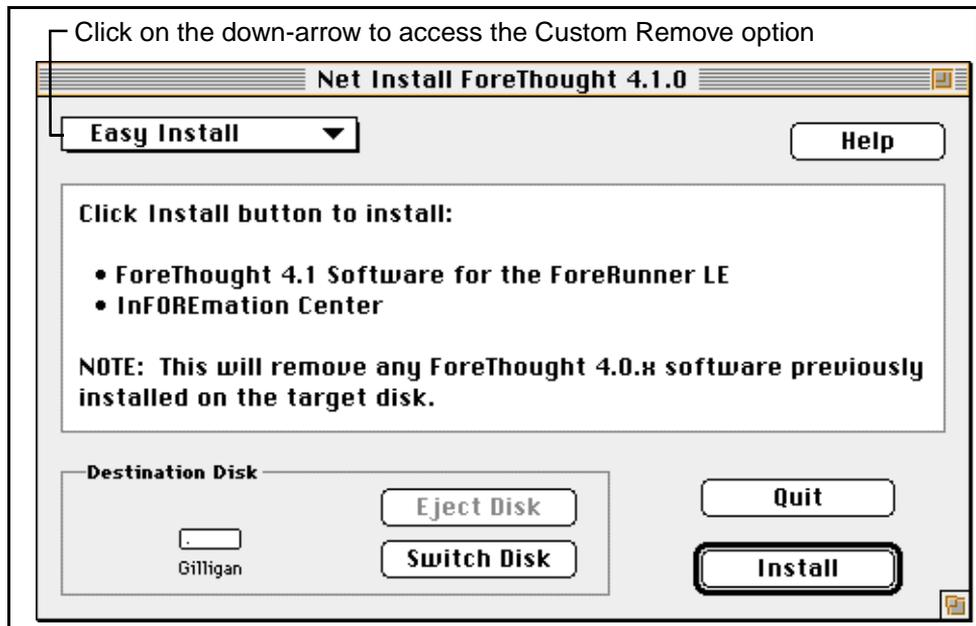

Figure 3.9 - Install FORE Software Window - Easy Install Mode
1. Follow the procedure outlined in “Easy Install Software Installation Procedure” on page 3-2, steps 1 through 3. The **Install FORE Software** window in the default Easy Install mode appears (Figure 3.9).